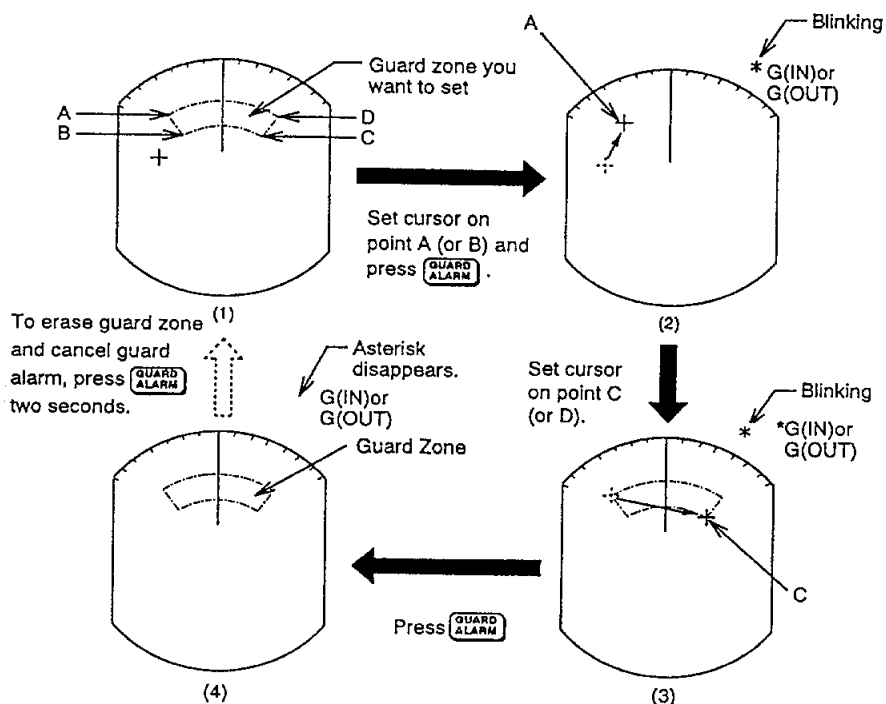

Figure 1-18 How to set the guard zone
- 2) Operate the trackball to set the cursor on point A or B. Press the **GUARD ALARM** key. “\*G (IN)” or “\*G (OUT),” with asterisk blinking, appears at the top right-hand corner of the display. See Figure 1-18 (2). (The asterisk indicates the guard zone is partially set.)
- 3) Operate the trackball to set the cursor on point C or D. See Figure 1-18 (3).
- 4) Press the **GUARD ALARM** key. The asterisk disappears. See Figure 1-18 (4).